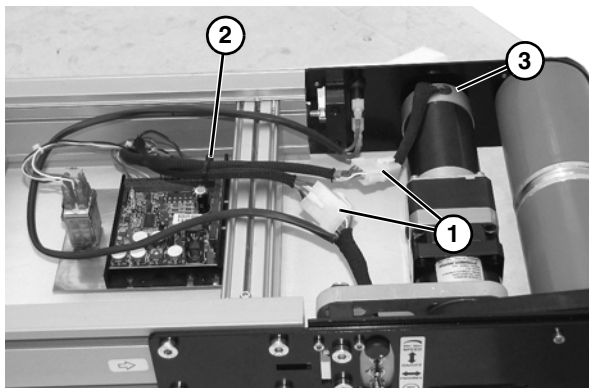

Figure 61
3. Disconnect two wiring harness connectors (**Figure 61, item 1**).
4. Remove tie strap (**Figure 61, item 2**) from drive motor harness.
5. If applicable, remove black cap from end (**Figure 61, item 3**) of drive motor.